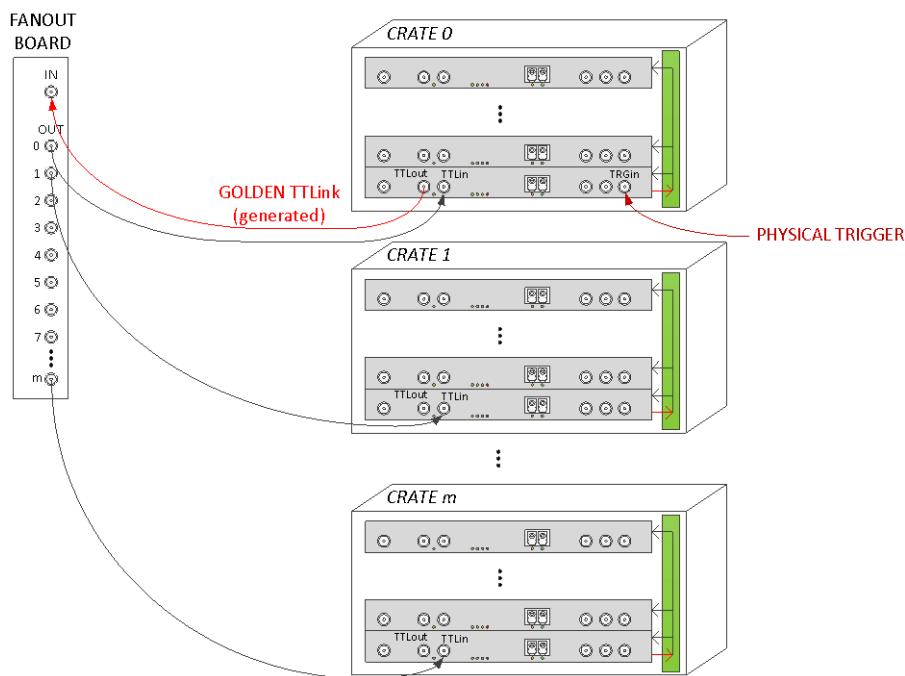
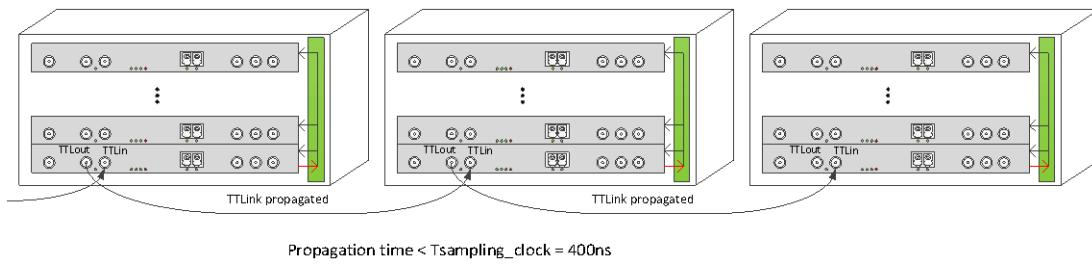
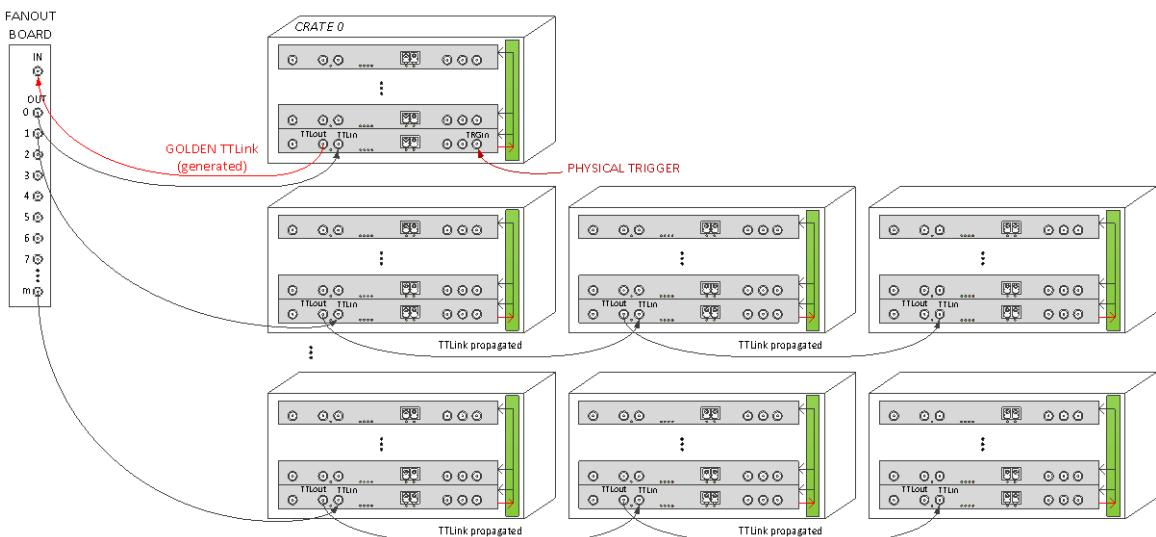
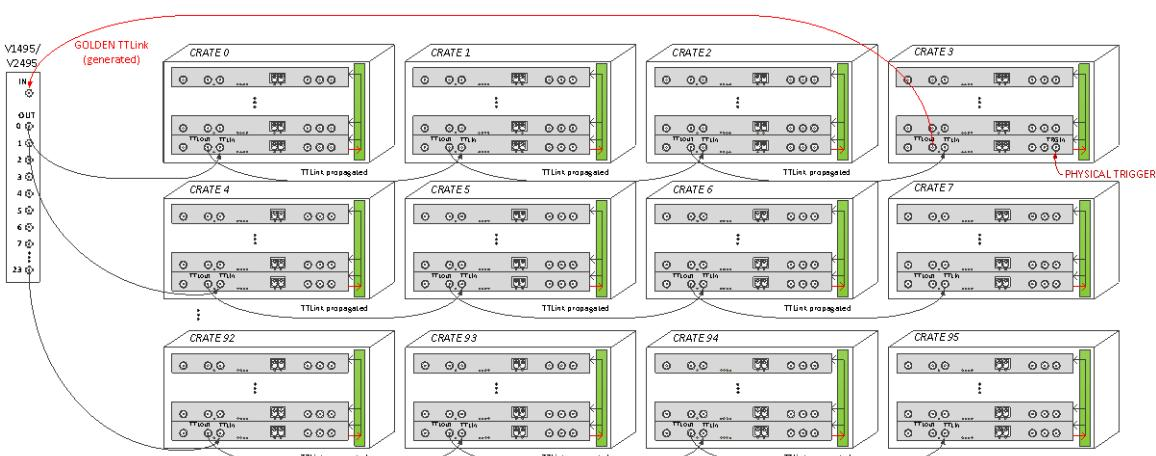

Fig. 4.6: TTLink: connecting multiple crates with fan-outs
Fig. 4.7: TTLink: Daisy-chain connection between multiple crates
Fig. 4.8: TTLink: mixed connection example #1
Fig. 4.9: TTLink: mixed connection example #2
A set of possible connections are described in next figures (**Fig. 4.6**, **Fig. 4.7**, **Fig. 4.8**, **Fig. 4.9**):
- **Fig. 4.6** shows the TTLink connection of multiple crates in parallel, using a fan-out board. By this mode, the phase difference between the TTLink signals on the different crates is reduced to zero simply by connecting the crates to the fan-out board using cables of the same length.
- **Fig. 4.7** shows the possibility to connect multiple crates in TTLink Daisy chain: since each board in SLOT 0 of a crate GENERATES by default a TTLink signal on its front panel TTLink_OUT output, it must be programmed by register to PROPAGATE on TTLink_OUT the signal received on its TTLink_IN. Although connecting the crates in TTLink Daisy chain guarantees the synchronization of all the boards, there is necessarily a mismatch between the TTLink signals of the different crates, which depends on the length of the connection cables.
- **Fig. 4.8** shows a possible mixed connection. Under the same number of crates, this mode reduces the number of fan-out board outputs that provide the same GOLDEN TTLink compared to the mode in **Fig. 4.6**.
- **Fig. 4.9** shows another possible example of mixed connection.